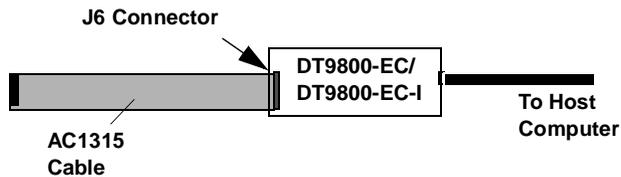

Figure 5: Connecting the AC1315 Cable to the DT9800-EC or DT9800-EC-I Series Function Module
1. Plug one end of an AC1315 cable into the J6 connector of the DT9800-EC or DT9800-EC-I Series function module, as shown in Figure 5.